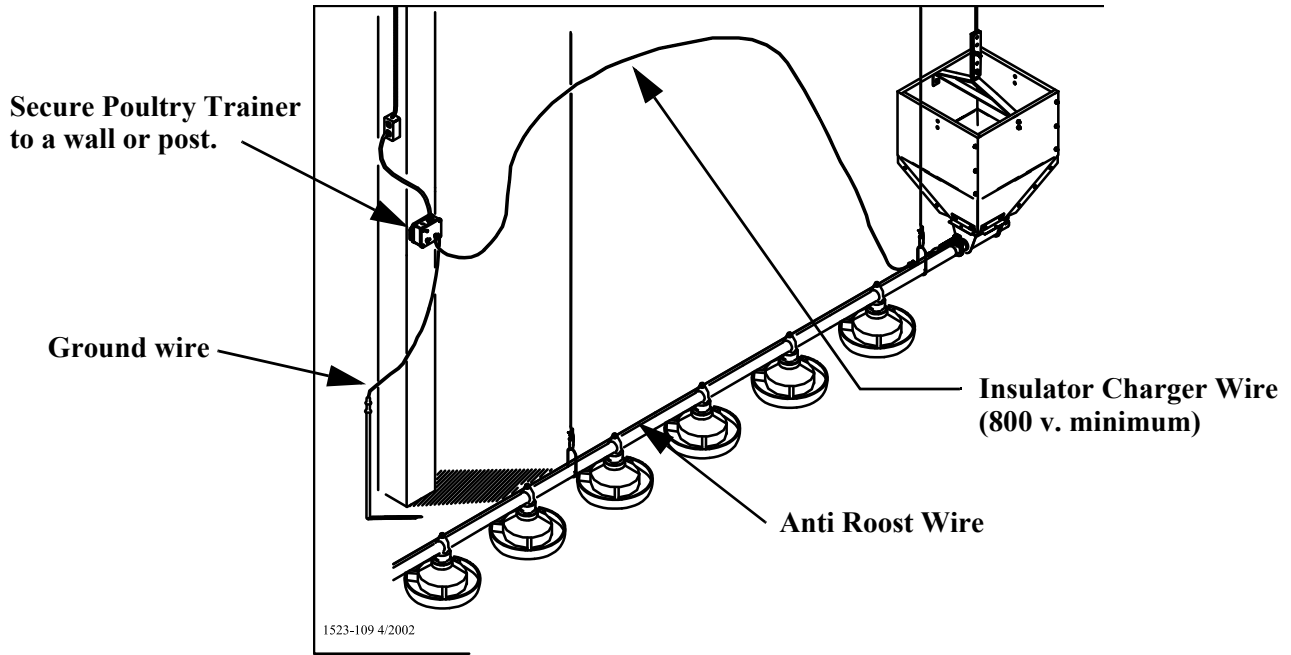

Figure 53. Anti-Roost Cable Mid-Line Connection
12. Install the Poultry Trainer or Line Charger, as shown in **Figure 53 or 54**.
The Poultry Trainer is used to power all Anti-Roost lines in a house. See **Figure 53**.